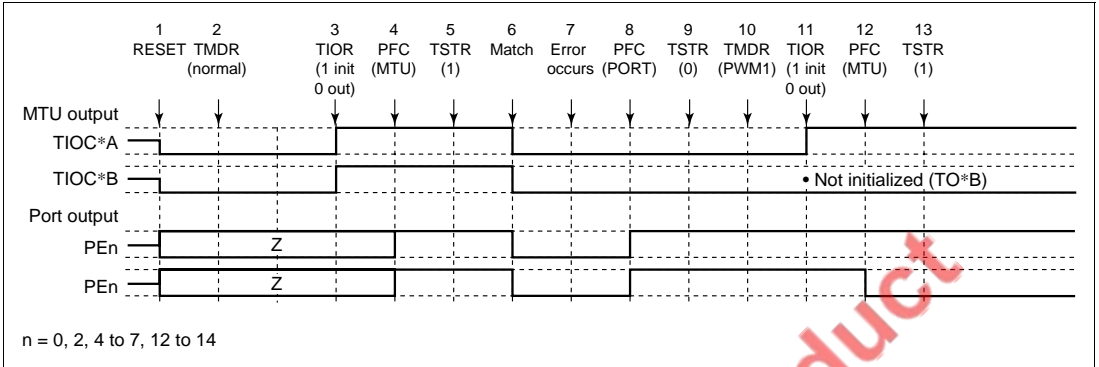

Figure 8.50 Error Occurrence in Normal Mode, Recovery in PWM Mode 1
(2) Operation when Error Occurs during Normal Mode Operation, and Operation is Restarted in PWM Mode 1: Figure 8.50 shows an explanatory diagram of the case where an error occurs in normal mode and operation is restarted in PWM mode 1 after re-setting.